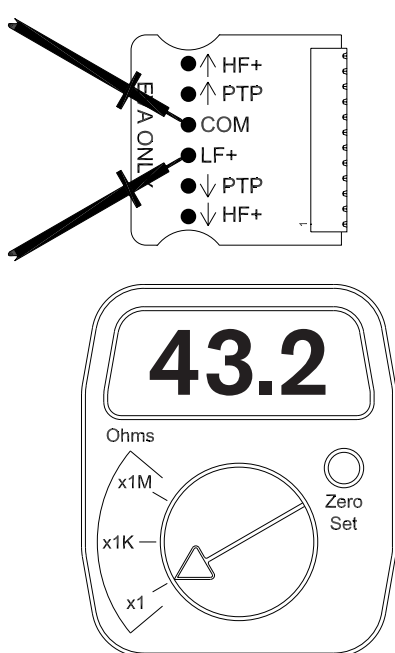
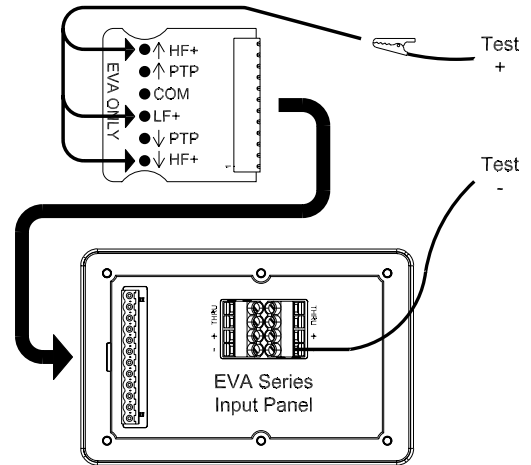

Figure 6:
Figure 9:
EVA components are wired in pairs. Therefore, both woofers will be tested together at the same time, as will the upper HF compression driver pair and the lower HF compression driver pair. Each HF compression driver pair has its own PTP network and these are also tested separately. EVA DCR values are referenced to the black (common) test point (See Figure 6). To directly access transducer pairs for more sophisticated testing, substitute the (-) input connection on the input terminal block for the black (common) test point on the access card (See Figure 9). Note: DCR values listed are not valid for this connection.
1. Test the woofers: Place one test lead securely on the RED test point and the other on the BLACK (common) test point on the Access Card. A properly functioning woofer pair will read approximately 43.2 ohms DCR, ± 1 ohm (See Figure 6). A significantly higher reading indicates one of the woofers has an open voice coil, meaning the woofer needs to be replaced. A significantly lower reading indicates one or both of the woofers has a voice coil that is shorting, meaning the woofer(s) must be replaced.